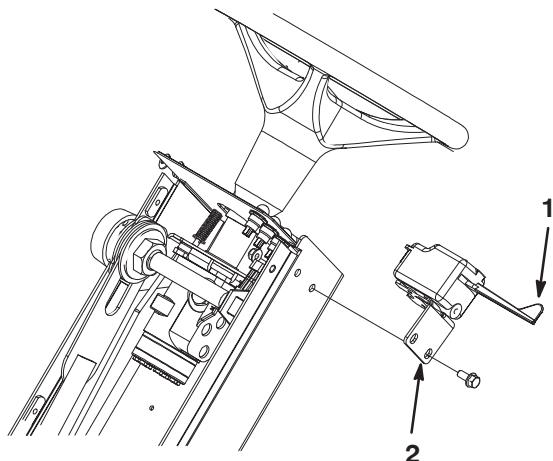

Figure 9
2. Secure the signal controller mounting bracket to the steering tower with (2) screws and nuts (Fig. 9).